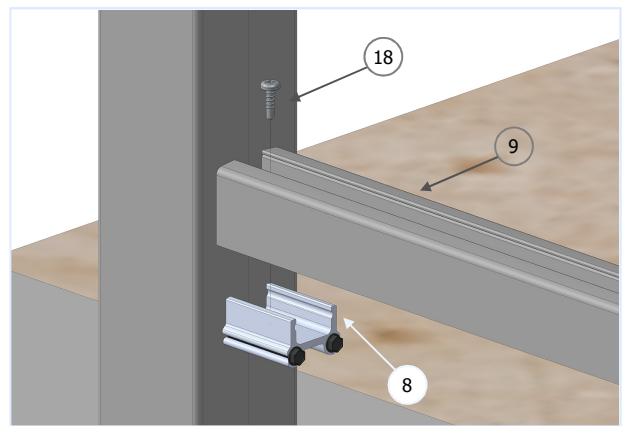

Fig 16
- Install #8 x 7/16" Pan Head Sheet Metal Screw (20) from upper infill to RCB.
- Hand press the top rail (11) onto the top rail glass infill (10) until it snaps, with the etched mark on the lower right side shown in Figure 16.